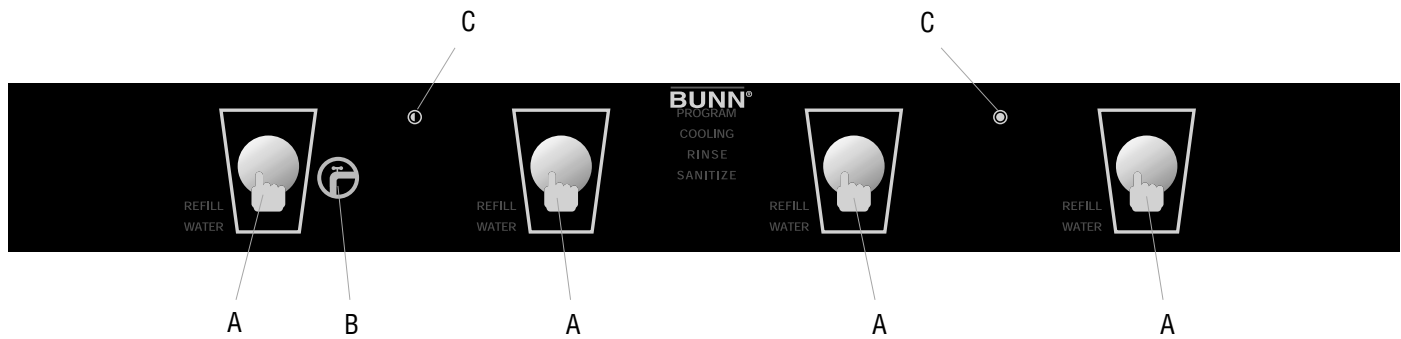
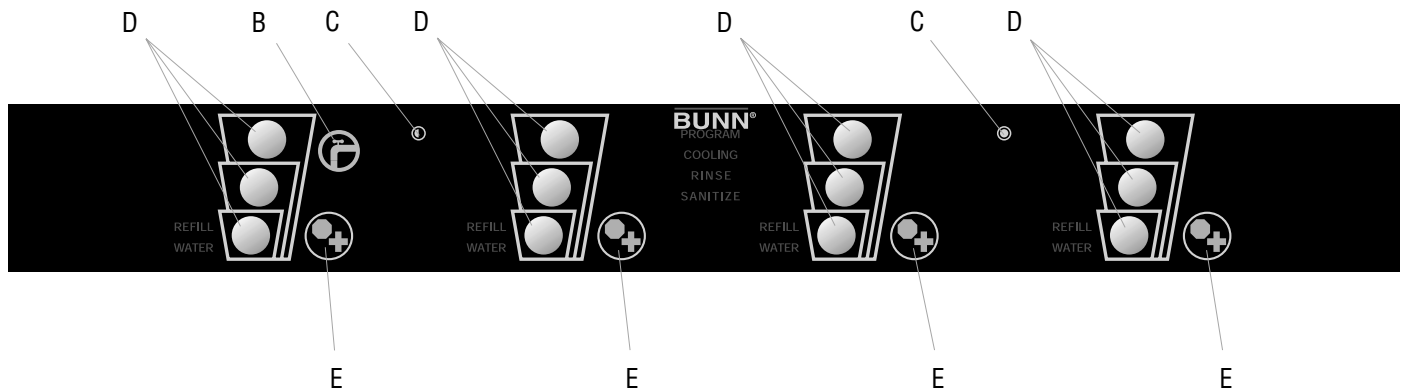

FIG 5 Press and Hold Models
FIG 6 Portion Control Models
Press and hold the "Product Dispense Switch" Fig 5, until concentrate dispenses from the dispense nozzle.
Press and hold the "+/STOP Switch" Fig 6, until concentrate dispenses from the dispense nozzle.
Press and Hold Models (Refer to Fig 5)
Portion Control Models (Refer to Fig 6)
5. Press and release the appropriate "Product Dispense Switch" Fig 5. This will initiate a timed rinse cycle. Portion control users can press any of the 3 "Product Dispense Switches" Fig 6, to initiate a timed rinse cycle.